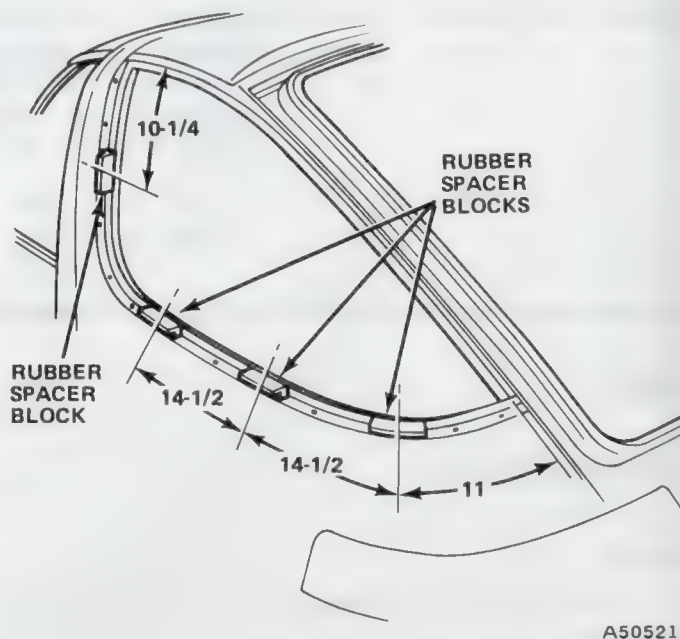

Fig. 3K-2 Installation of Rubber Spacer Blocks—Pacer (Inches)
- (1) Correct any moulding or metal-to-glass defects.
- (2) Check reveal moulding clips for proper position or replace, if broken.
- (3) Position rubber spacer blocks as shown in figure 3K-2.